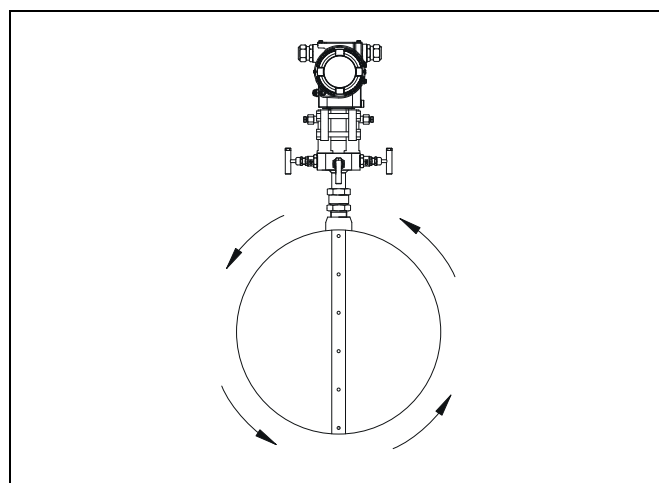

Fig. 2.12 Vertical Pipe Mounting – All Applications
Any lateral-mounting angle is suitable – see Fig. 2.12.
- for vertical pipe mounting – liquid or gas, refer to Fig. 2.12.